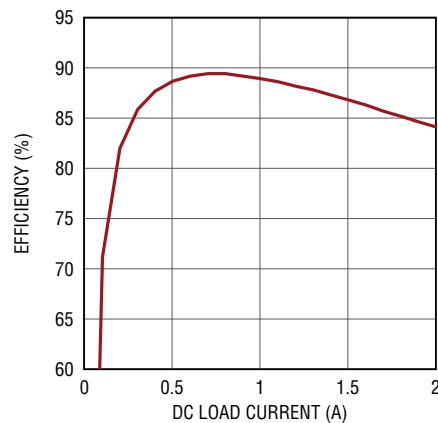

Figure 3. Efficiency vs. Load Current at $V_{IN} = 3.3V$, $V_{OUT1} = 1.2V$, $f_{sw} = 2MHz$
1. When measuring the output or input voltage ripple, do not use the long ground lead on the oscilloscope probe. See Figure 3 for the proper scope probe technique. Short, stiff leads need to be soldered to the (+) and (-) terminals of an output capacitor. The probe's ground ring needs to touch the (-) lead and the probe tip needs to touch the (+) lead.